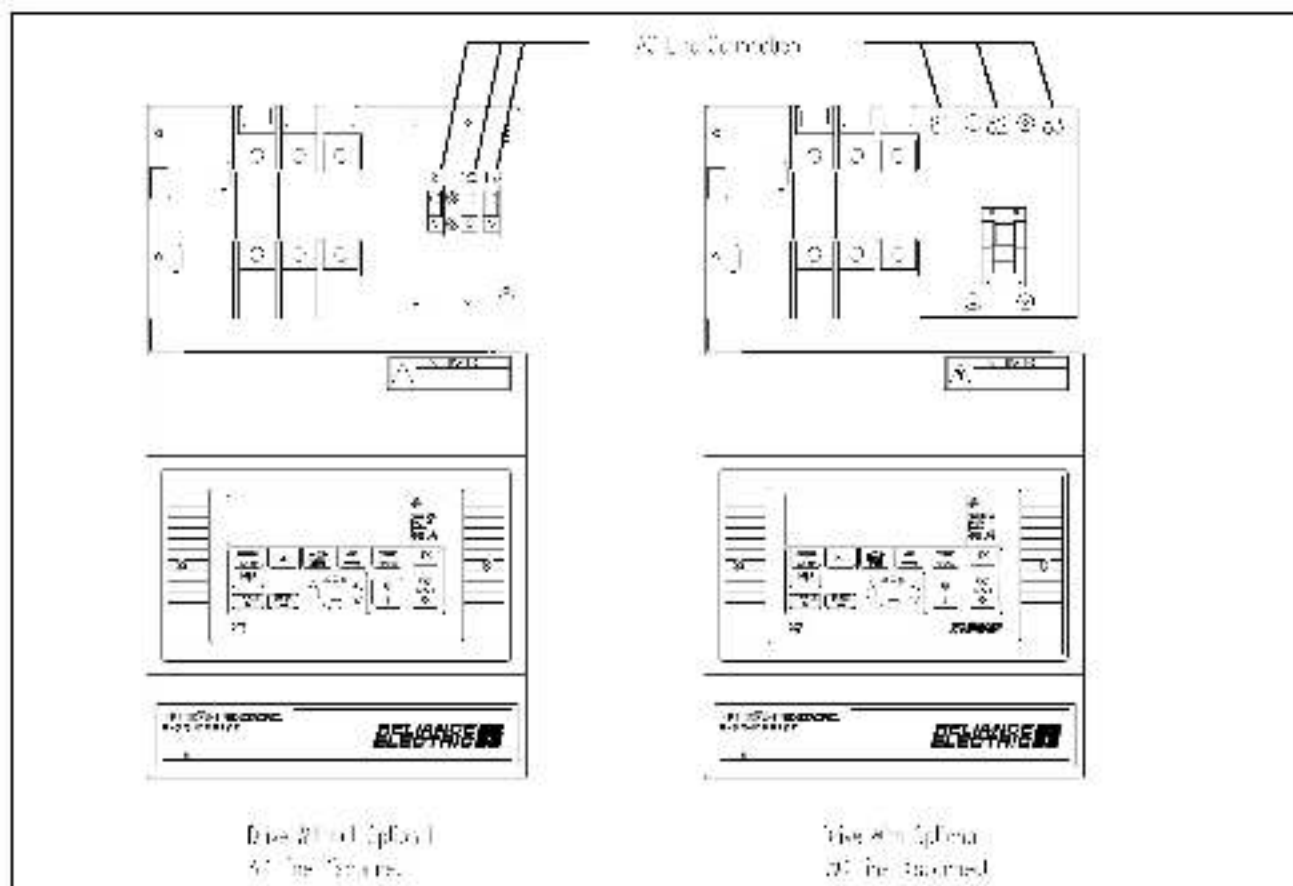

Figure 2-14 – AC Line Connection Location 1.5 to 50 HP @ 250 VAC 5 to 50 HP @ 460 VAC / 7-110 Amp Rated Output
- Step 2. Connect the AC line supply to the termination points located at the right top of the drive or to the disconnect. See figures 2.14 through 2.17.